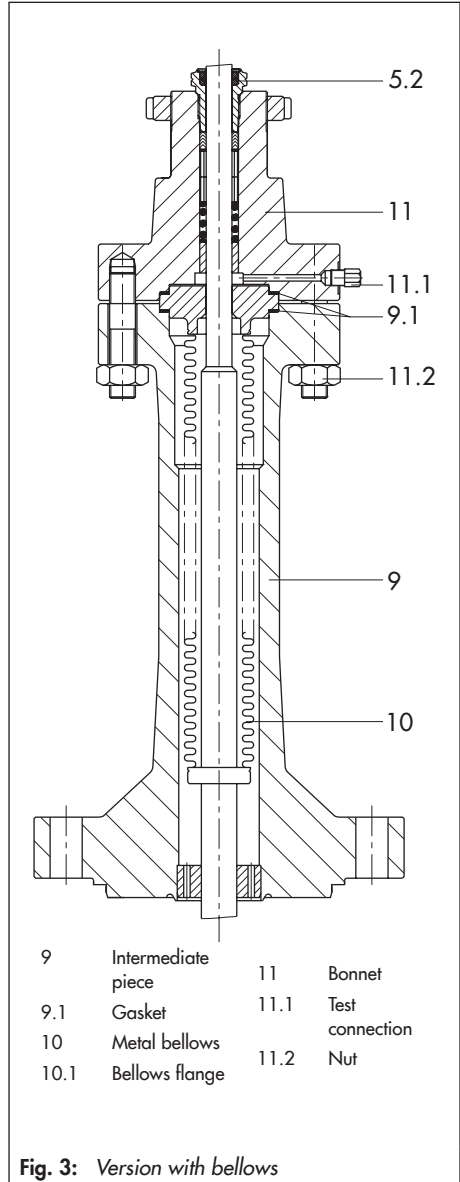

Fig. 3: Version with bellows
Versions with bellows seal (Fig. 3) are fitted with a test connection (11.1) at the top flange to monitor the tightness of the bellows. Particularly for liquids and vapors, we recommend installing a suitable leakage indicator, such as a contact pressure gauge, an outlet to an open vessel or an inspection glass.
The metal bellows (10) can only be replaced as a unit together with the plug stem. Proceed as described in section 6.1.2 (Fig. 3).